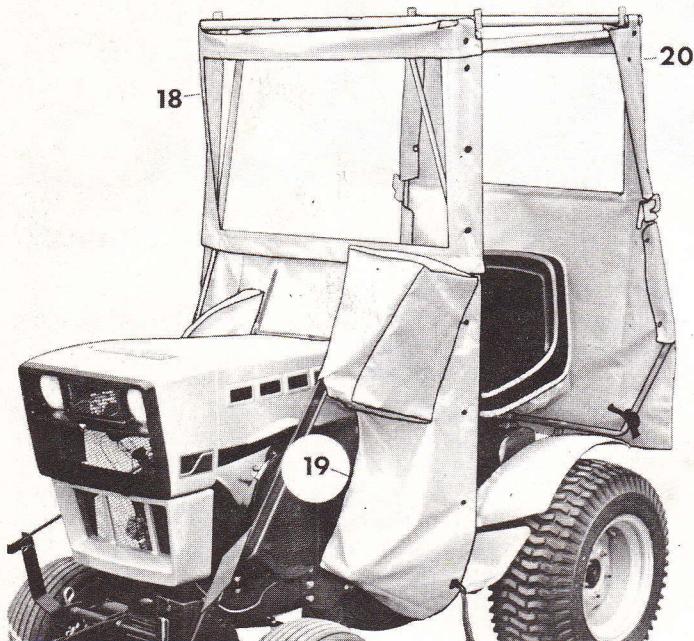

FIGURE 16
STEP 14: SEE FIGURES 16, 17, 18, & 19: